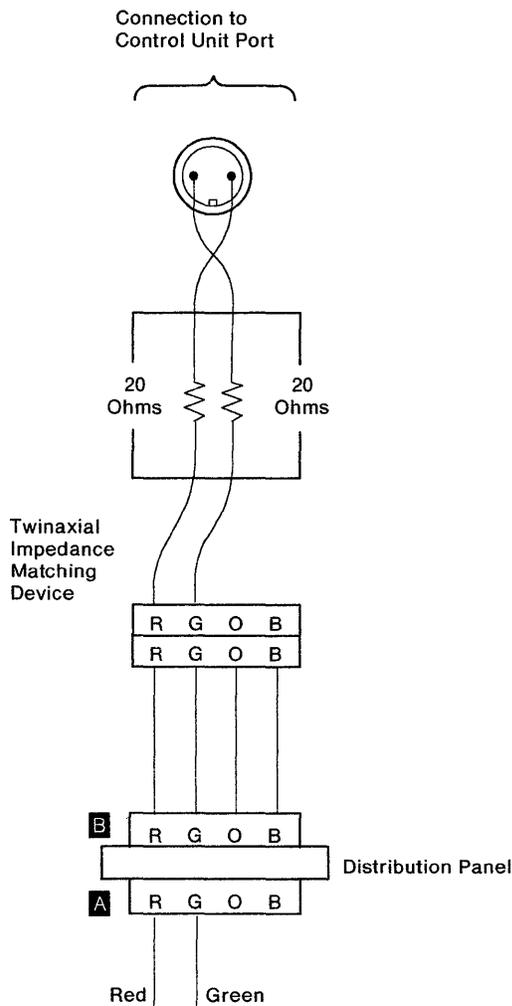

Figure 3-77. Testing Cable Drop from the Distribution Panel to the Control Unit
2. Go to the distribution panel and do the following steps using Figure 3-77: